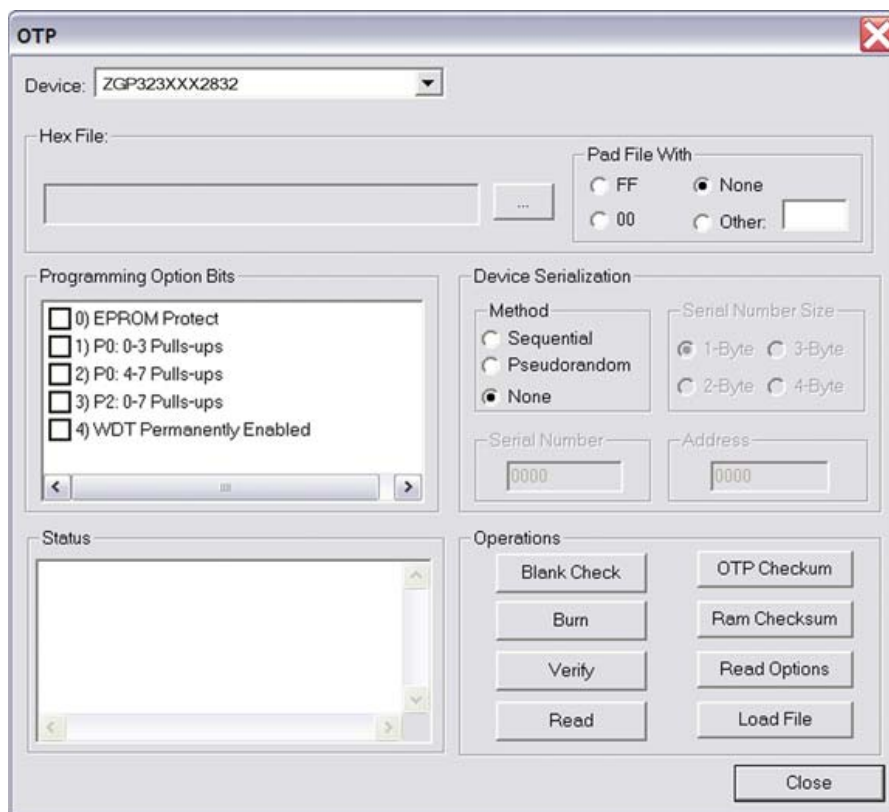

Figure 12. OTP Programming Window (Hex File Example)
7. Select Tools --> OTP Programming to open the OTP window (Figure 12).